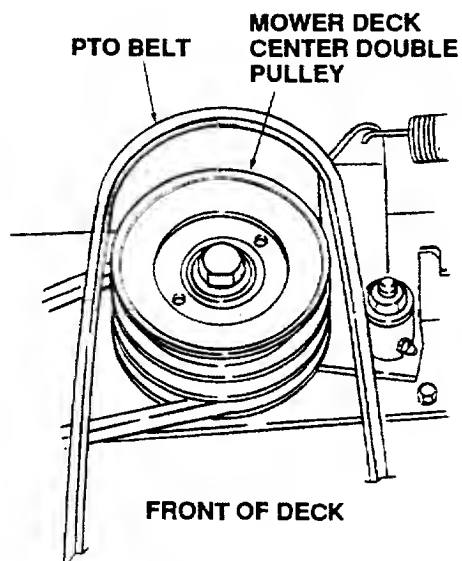

Figure 36
4. Remove the rearward end of the PTO belt from the upper pulley of the deck center double-pulley. (Refer to Figure 36.)